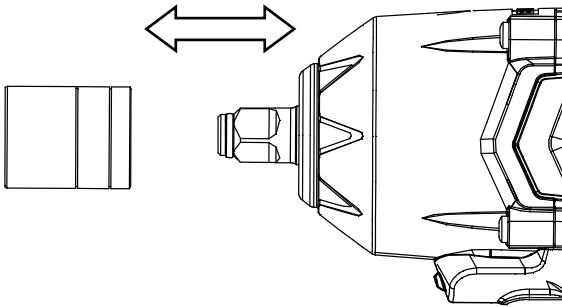

Fig. 3
1. Insert a socket into the anvil. (see Fig. 3)
Pull out the socket from the anvil directly. (see Fig. 3)